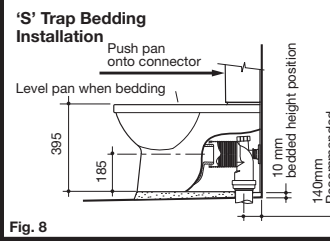

Fig. 8
- 4- Position and push pan into connector using the marked centre line on the wall as a guide and level pan into bedding mixture, so that the back of the foot of the pan is approximately 10mm above the finished floor as detailed in **Fig. 8**. It is recommended that wedges are used to support the foot of the pan during the positioning.